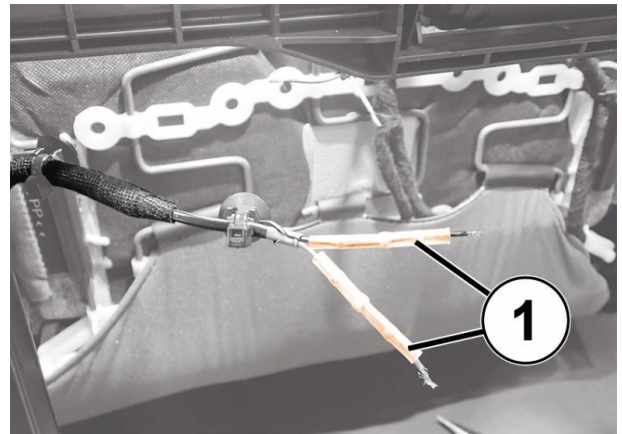

Figure 4 – Strip Wire Insulation and Insert Tubes
3. Strip the cable terminals and insert the heat-sealing tubes (1) (Figure 4).